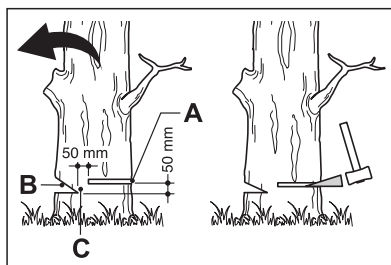

Fig. 9b
Make the notch (Fig. 9b, B) 1/3 the diameter of the tree, perpendicular to the direction of falls (Fig. 9b). Make the lower horizontal notching cut first. This will help to avoid pinching either the saw chain or the guide bar when the second notch is being made.
- 1). Make the felling back cut (Fig. 9b, A) at least 50 mm higher than the horizontal notching cut (Fig. 9b). Keep the felling back cut parallel to the horizontal notching cut. Make the felling back cut so enough wood is left to act as a hinge. The hinge (Fig. 9b, C) wood keeps the tree from twisting and falling in the wrong direction. Do not cut through the hinge.